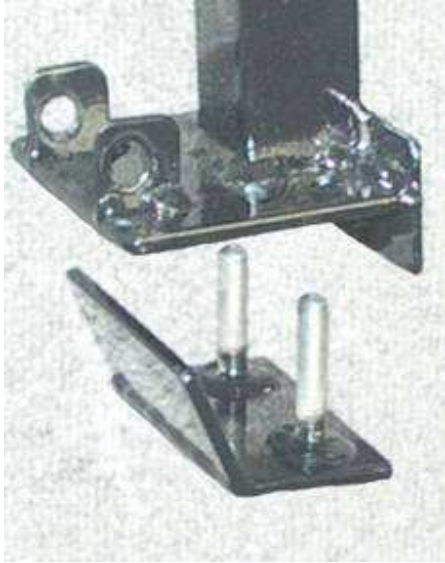

FIG. 12
6. **Loosely attach Mounting Base and Backing Plate.** Refer to Figs. 12 and 13 and see how the Mounting Base (C) and the Clamp Bottom (F) are connected. FIG 11 shows how these parts mount to the rain gutters of commercial vans. Not all rain gutters have exactly the same shape, but the method of installation is the same. Place the Cross-bar assembly atop the van so that the bottom of the vertical edge of the Mounting Base and Cross-bar Extension sit fully on the rain gutters. After placement, insert the threaded portion of the Clamp Bottom up through the two holes on each